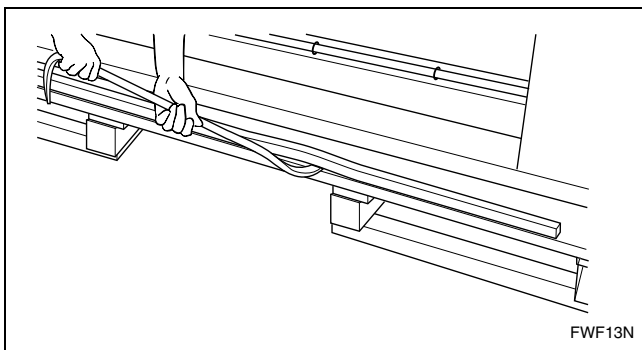

Figure 4
2. Use a pry bar to remove the wood stops from the skid. Refer to *Figure 4*.